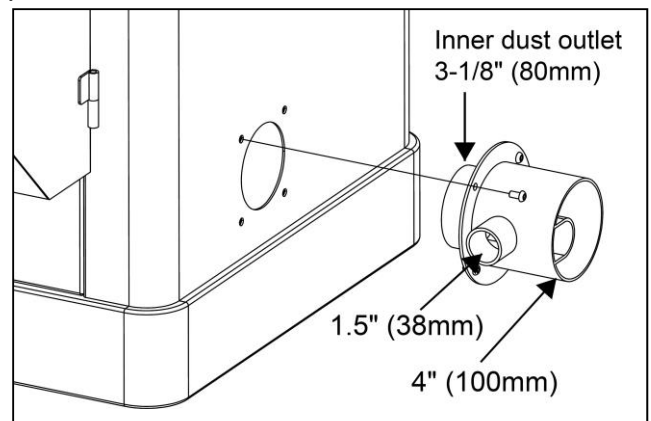

Fig. 18
1. Installation of the Dust Outlet (**Fig.18**)